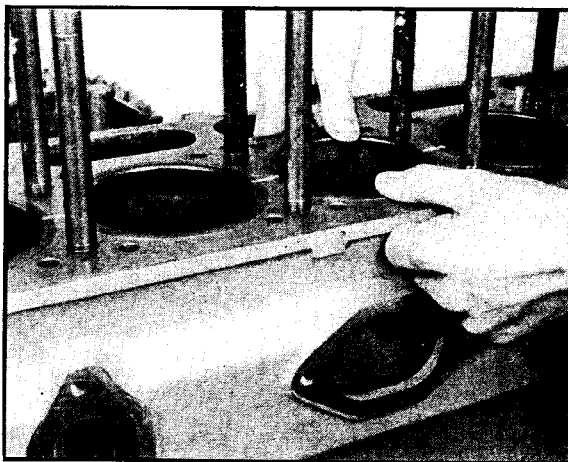

Fig. 12-27. Pushing liner into position
4. Push the liner into position in the block bore. Fig. 12-27.